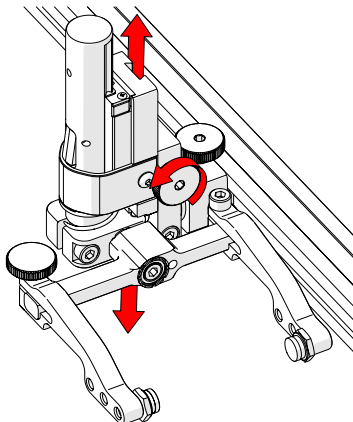

Fig. 143 - Vertical adjustment
2. Vertical adjustment knob allows the vertical probe holder height adjustment (Fig. 143).